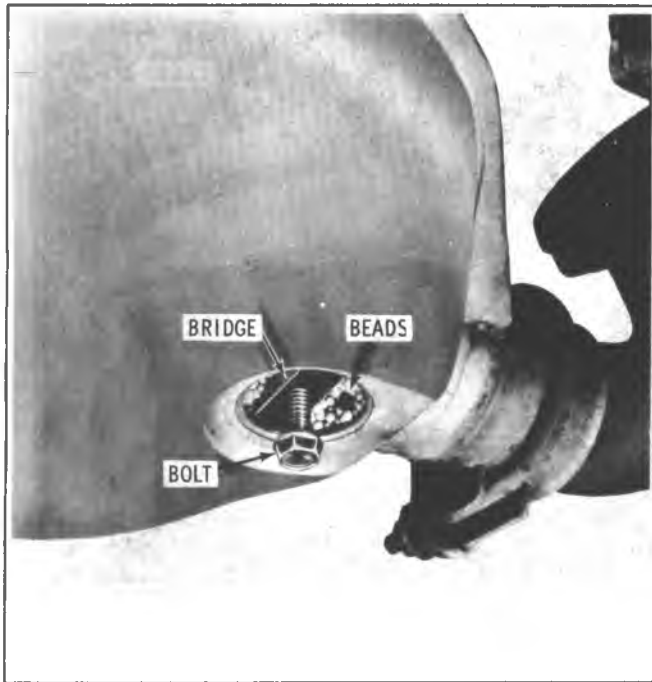

Fig. 6F-9 — Positioning Fill Plug Bridge
5. Install replacement cover on converter (Fig. 6F-14).